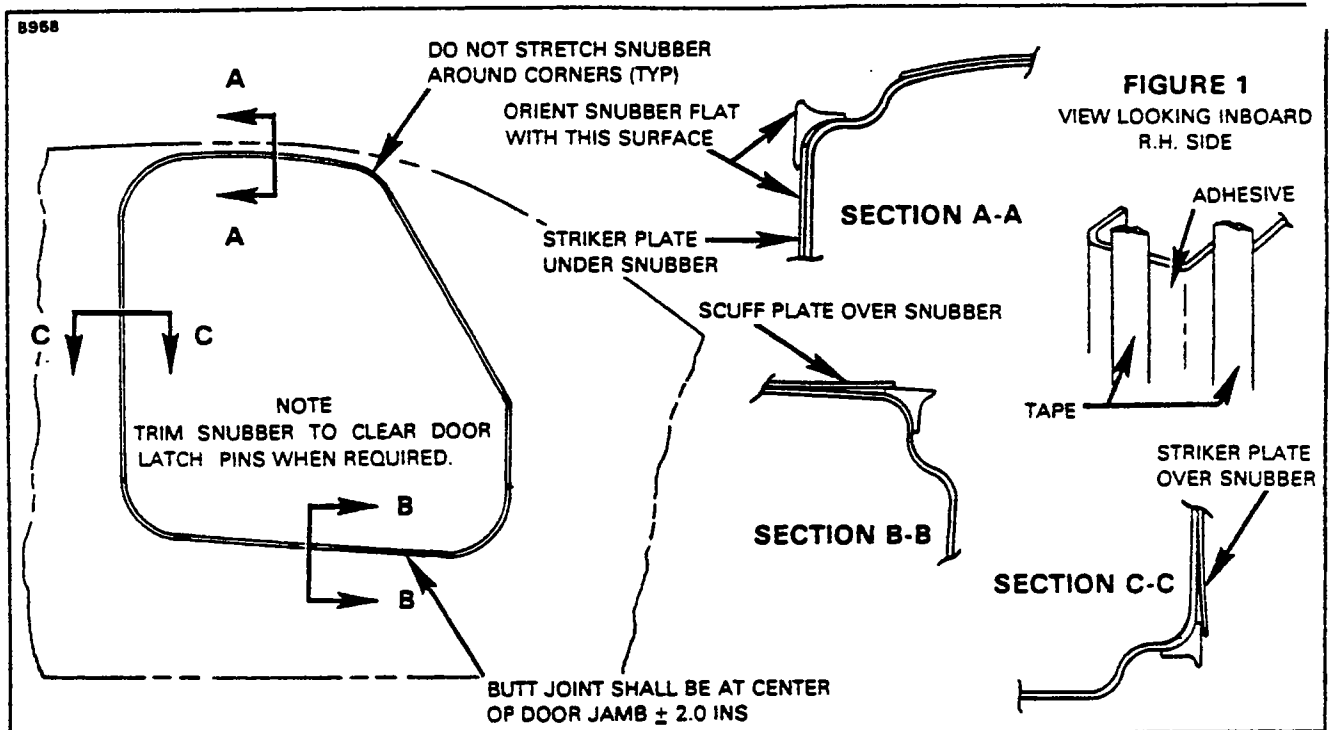

Figure 4-8. Door Snubber Installation
4-41. REMOVAL AND INSTALLATION OF DOOR SEAL SNUBBERS. (Refer to Figure 4-8.)
7. With reference to Figure 4-8, make sure the seal is properly aligned before allowing the surfaces to come in contact. The seal should not be stretched or pulled such that the cross section of the seal is reduced or distorted. Make sure the door closes properly and that an airtight seal is produced.